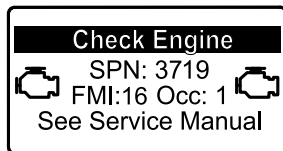

Figure 2
- If a parked regeneration is needed, the InfoCenter displays engine warning SPN 3719, FMI 16 (Figure 2) and the engine computer derates engine power to 85%.